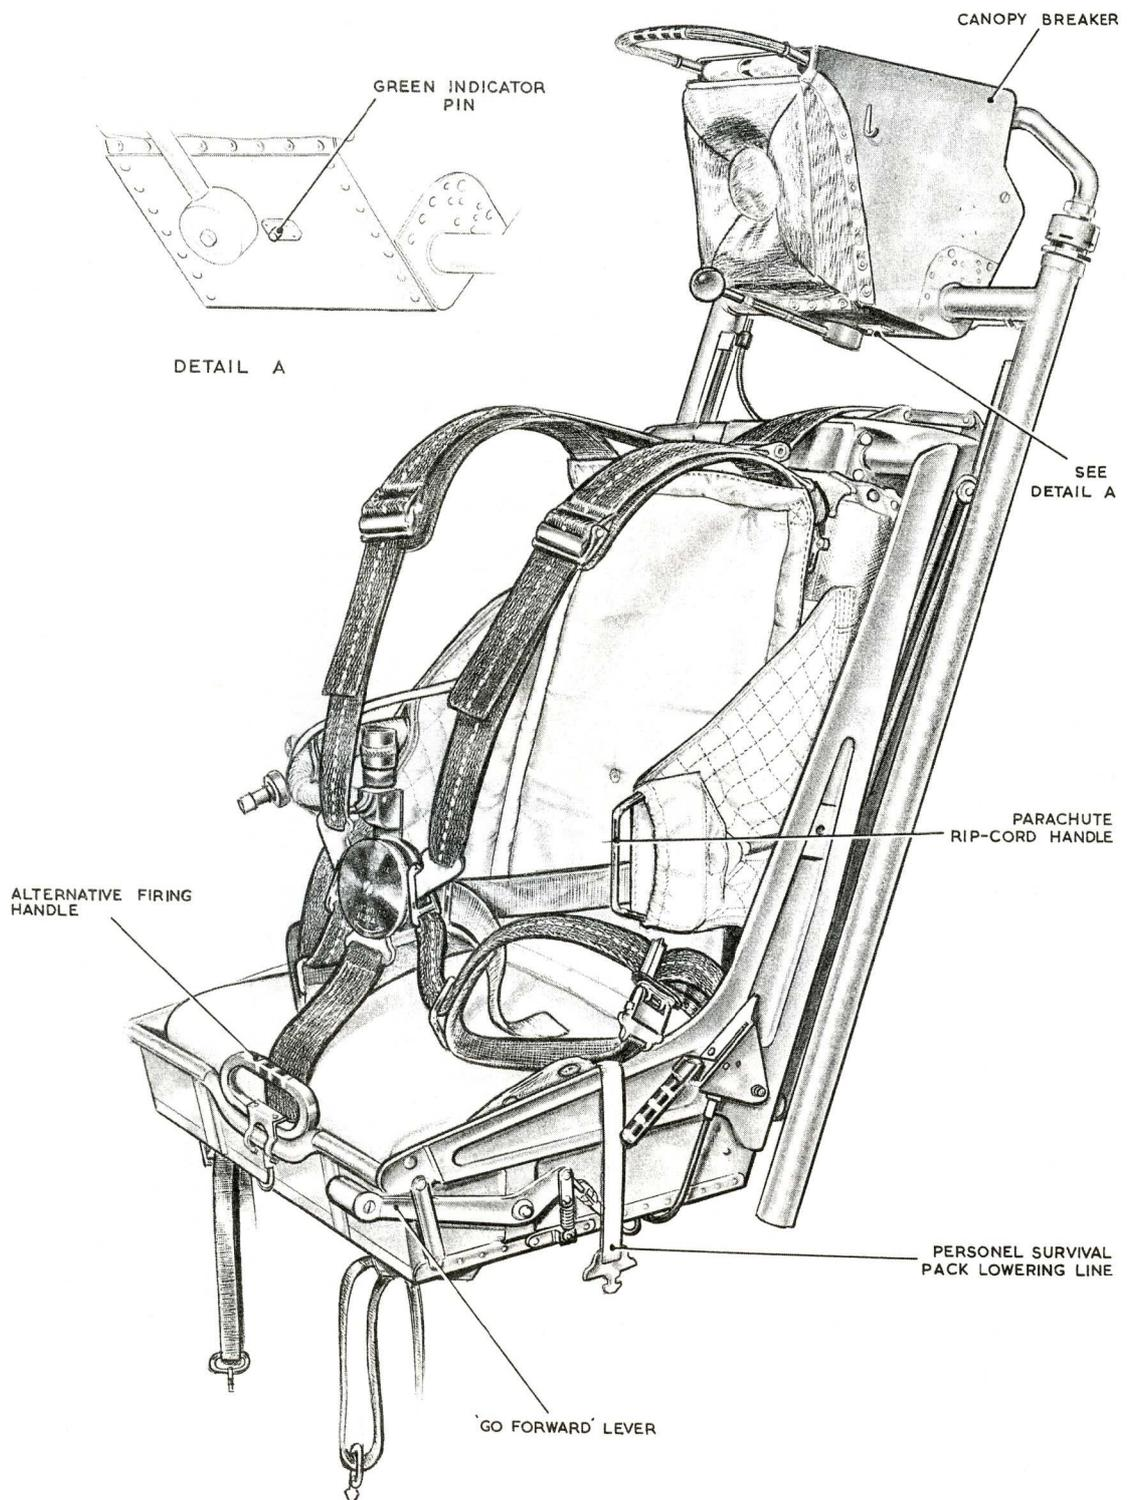

Fig. 1 The seat equipped (1)
14. Before equipping the seat, ensure that the firing unit safety lock is set to the SAFE position. The following procedure is to be used when installing the equipment in the seat (refer to fig. 1 and 2): -